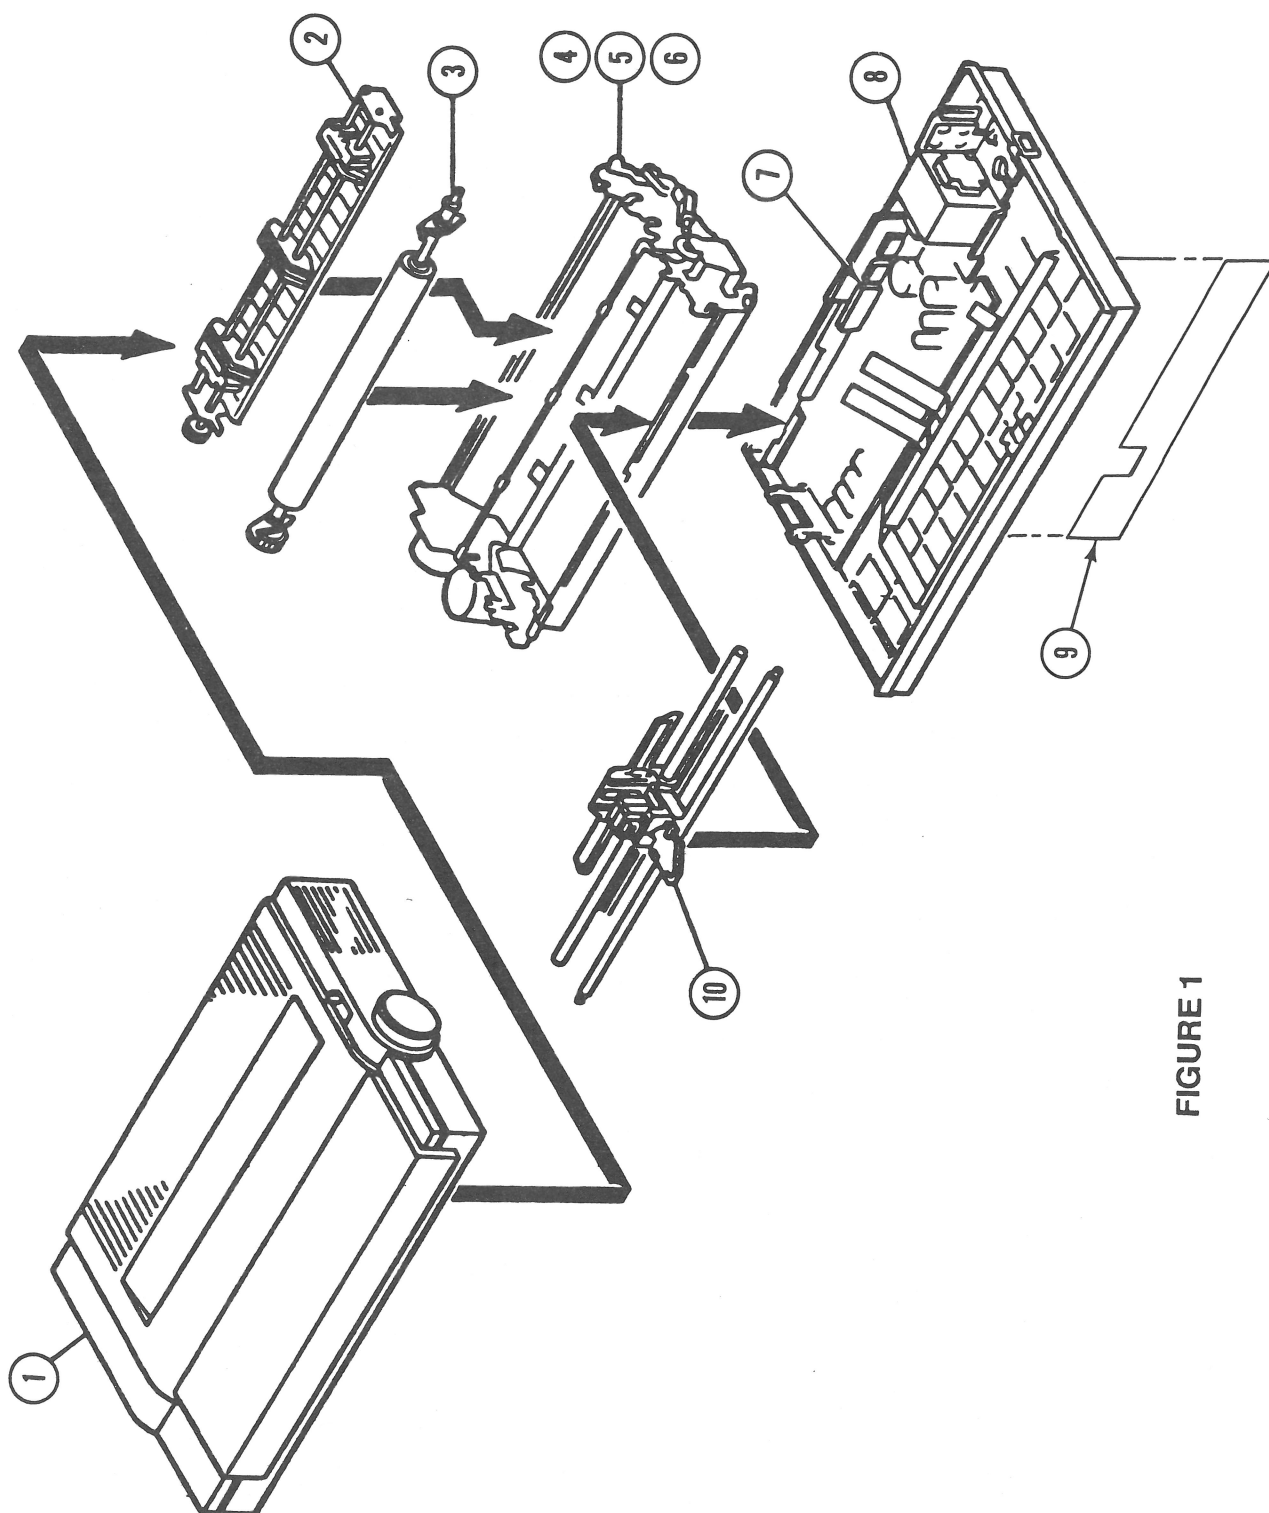

FIGURE 1
□ ASSEMBLY LOCATION (Figure 1)